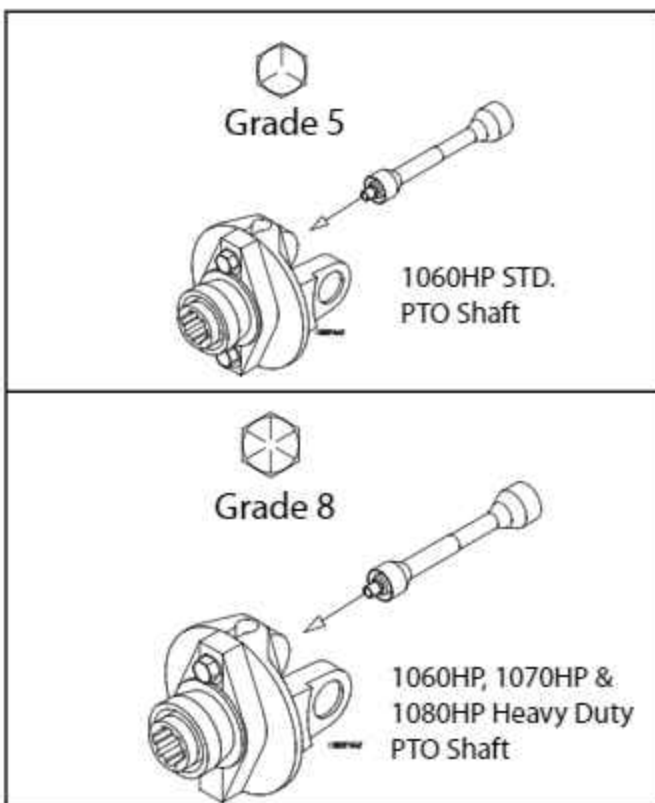

FIG. 4-6. PTO Shaft Shear Bolts
The driveline is protected by a shear bolt(s) inside the bell of the PTO shaft where it connects to the tractor as shown in Fig. 4-6. If the shear bolt(s) fail:
3. Install new shear bolt(s). See Fig. 4-6.